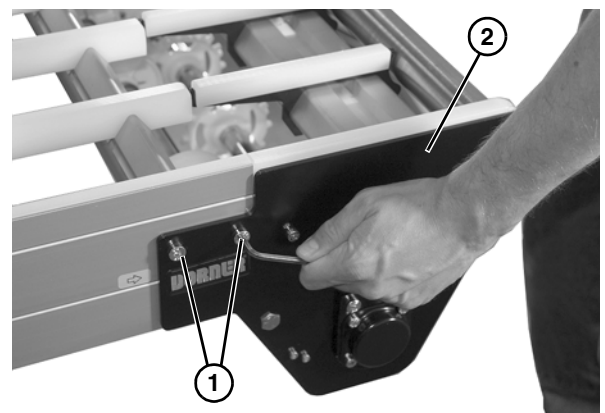

Figure 47
- Remove two socket head bolts (**Figure 47, item 1**) on each side of drive tail assembly (**Figure 47, item 2**).